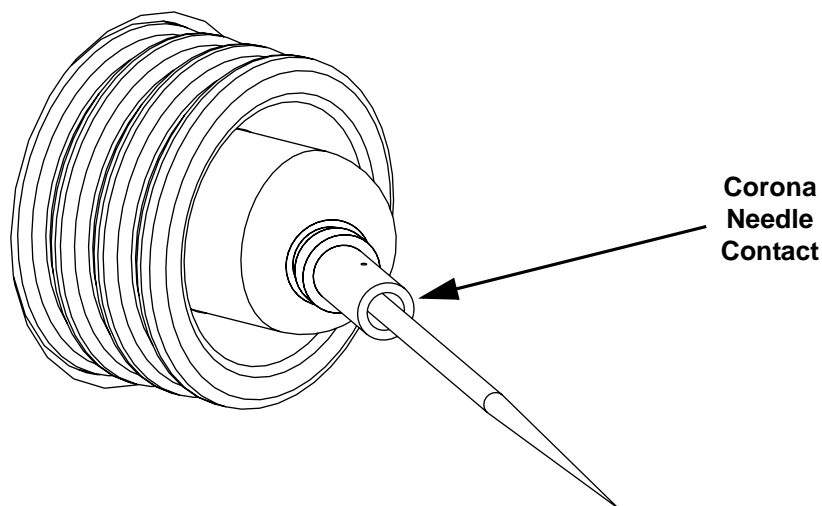

Figure 2-3. Corona needle, view from rear
- c. Using pliers, grasp the needle by the corona needle contact and pull the needle straight out of the socket. See Figure 2-3.